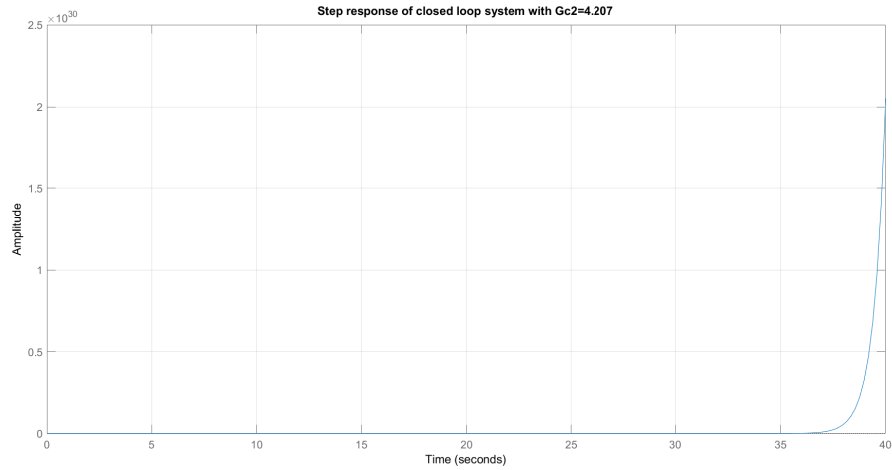

Figure 9: Step response part (b)
- Step response of the closed loop system with  $G_{c2}$  obtained in part (b) (Figure: 9)